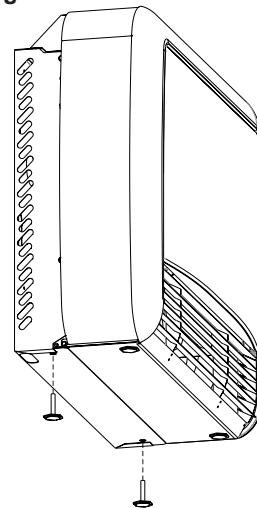

Figure 5
- Install the two leveling legs removed in step 8 through two holes in the bottom of the wall mount shroud into the wall furnace. See Figure 5.